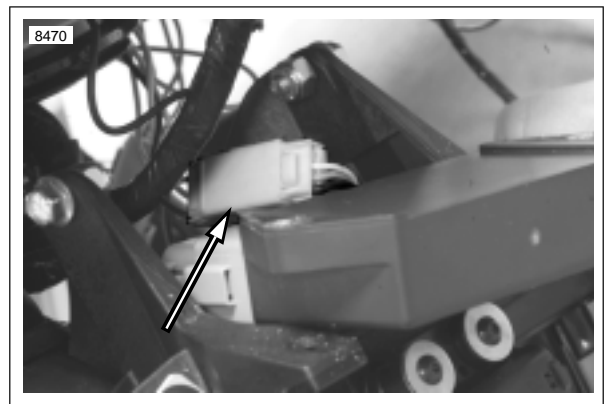

Figure 2-102. Headlight Connector
- a. Loosen headlamp pivot fasteners (1).
- b. Rotate headlight bracket (2) down.
6. See Figure 2-102. Disconnect headlight connection.
4. See Figure 2-102. Attach headlight connector to headlight support bracket.